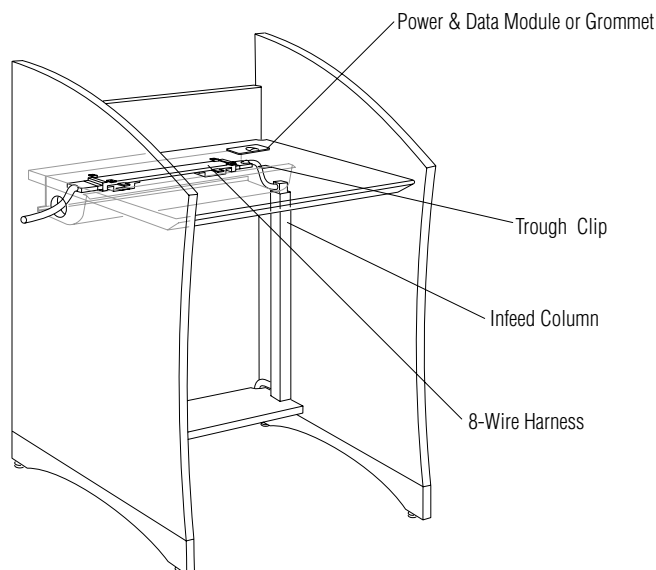

Figure 7
18. Snap the power & data module into place on the top of the worksurface with the electrical cord feeding through grommet opening (Figure 7). Plug the cord into the optional duplex receptacle.